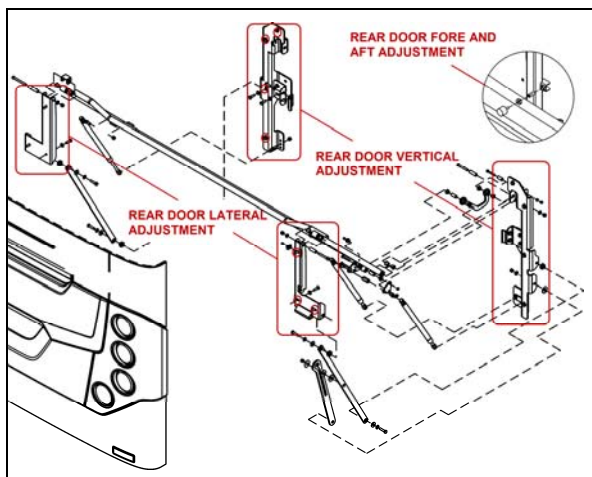

FIGURE 70: ENGINE COMPARTMENT DOOR
1. To adjust the door VERTICAL position, loosen the bolts (4 on each side) holding the door supporting arm and gas springs bracket to the vehicle structure (Figure 70).
2. To adjust the door LATERAL position, loosen the bolts (3 on each side) holding the door supporting arm and gas springs bracket to the door (Figure 70).
3. Adjust the door FORE & AFT position by screwing/unscrewing the rubber door stops on each side of the door opening (Figure 70).